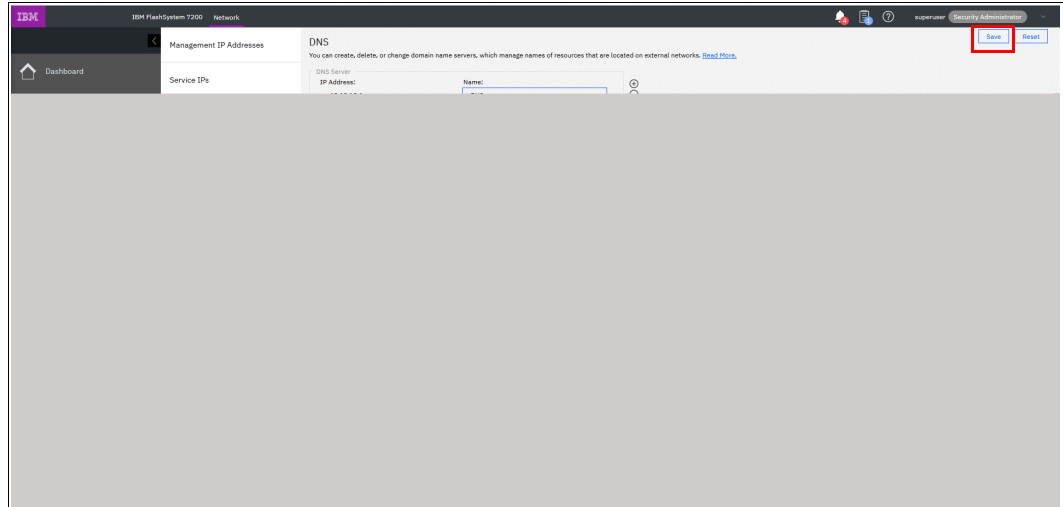

Figure 4-78 DNS information
1. In the left pane, click the **DNS** icon and enter the **IP address** and **Name** of each DNS. IBM Spectrum Virtualize supports up two DNSs for IPv4 or IPv6 (see Figure 4-78).